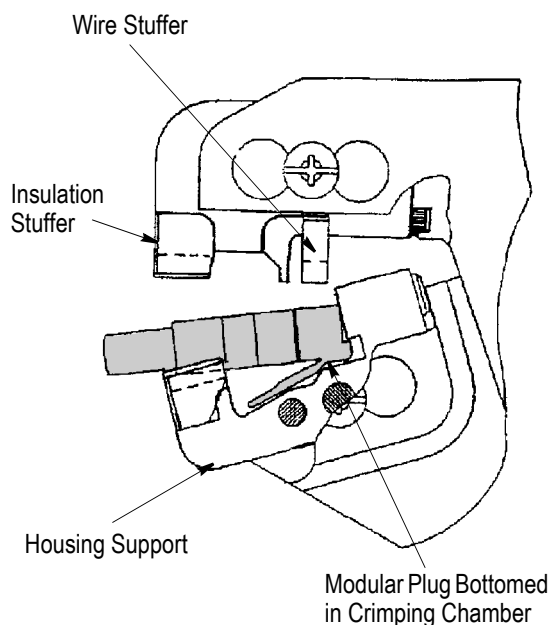

Figure 3
2. Hold the tool so that the back is facing you. Insert the modular plug (including shield and cable) in the crimping chamber until it bottoms. Refer to Figure 3.